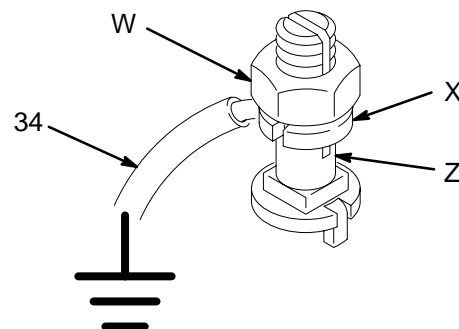

Fig. 1
1. *Pump:* use the ground wire and clamp (supplied). See Fig. 1. Loosen the grounding lug locknut (W) and washer (X). Insert one end of the ground wire (34) into the slot in lug (Z) and tighten the locknut securely. Connect the other end of the wire to a true earth ground.